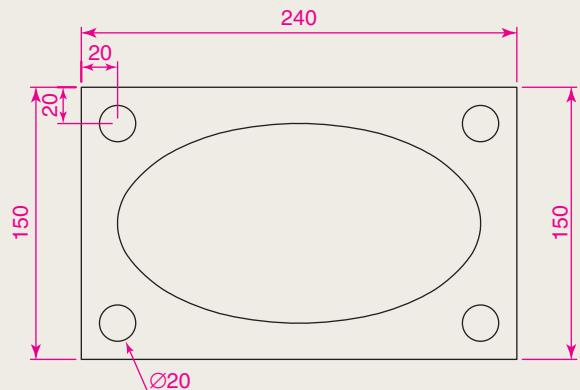

Fig. 3.48 Exercise 4
4. With the **Line**, **Circle** and **Ellipse** tools construct Fig. 3.48.